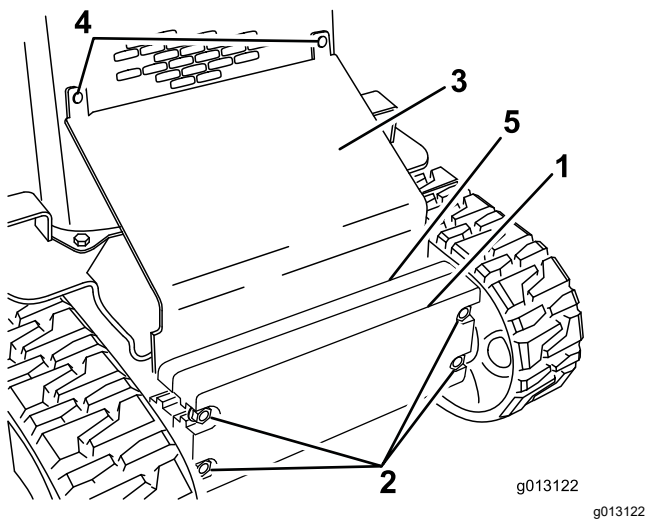

Figure 31
2. Loosen the bolts securing the weights (Figure 31).
3. Remove the carriage bolts and nuts securing the sloped plate (Figure 31).
10. Slide the sloped plate between the frame and the weights; secure it to the front screen grill using the carriage bolts and nuts removed previously (Figure 31).
11. Tighten the bolts securing the front weights (Figure 31).